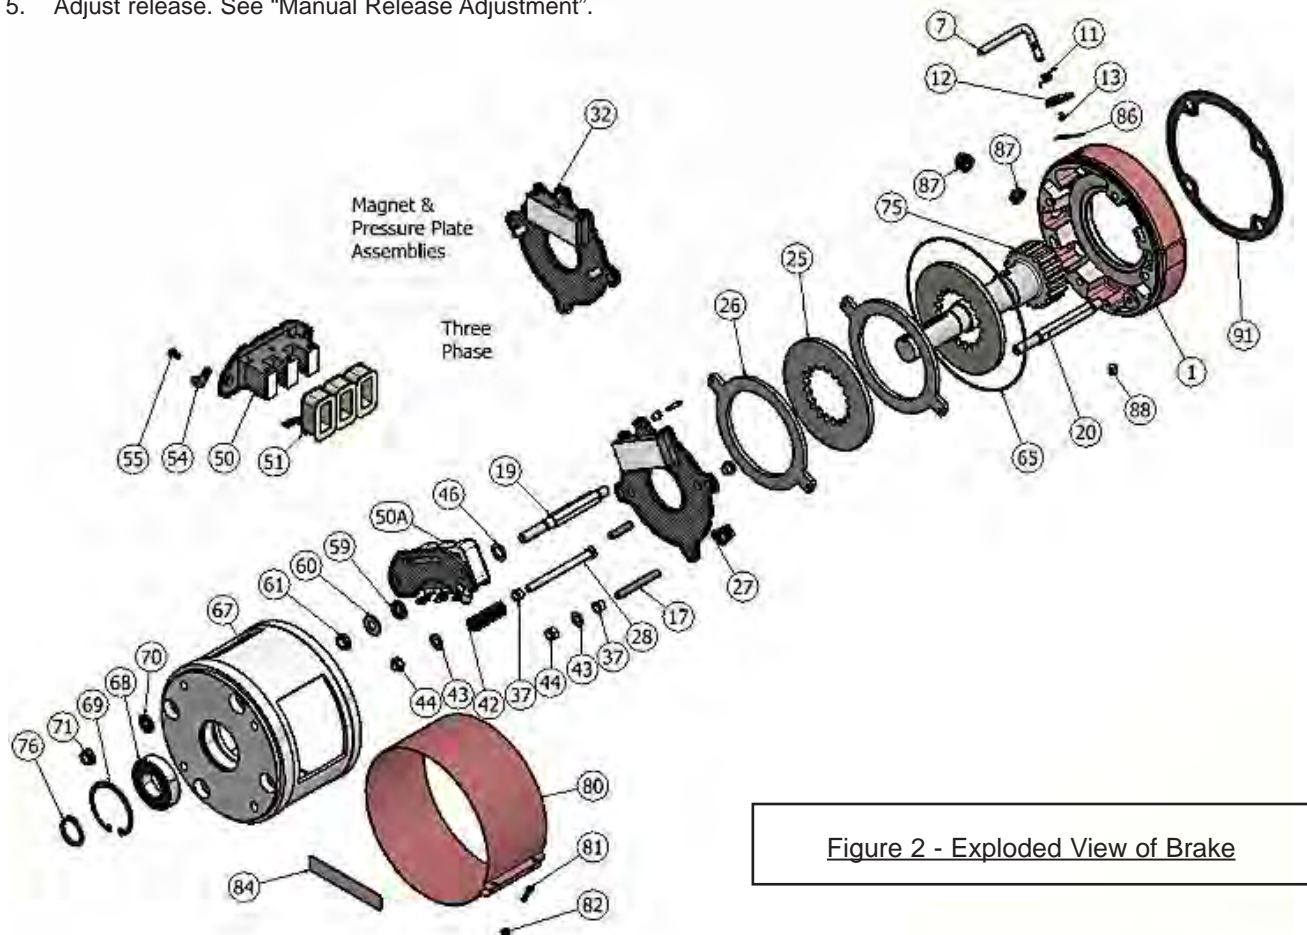

Figure 2 - Exploded View of Brake
Refer to Fig. 2
**REPLACEMENT PARTS LIST** (See Figure 2)